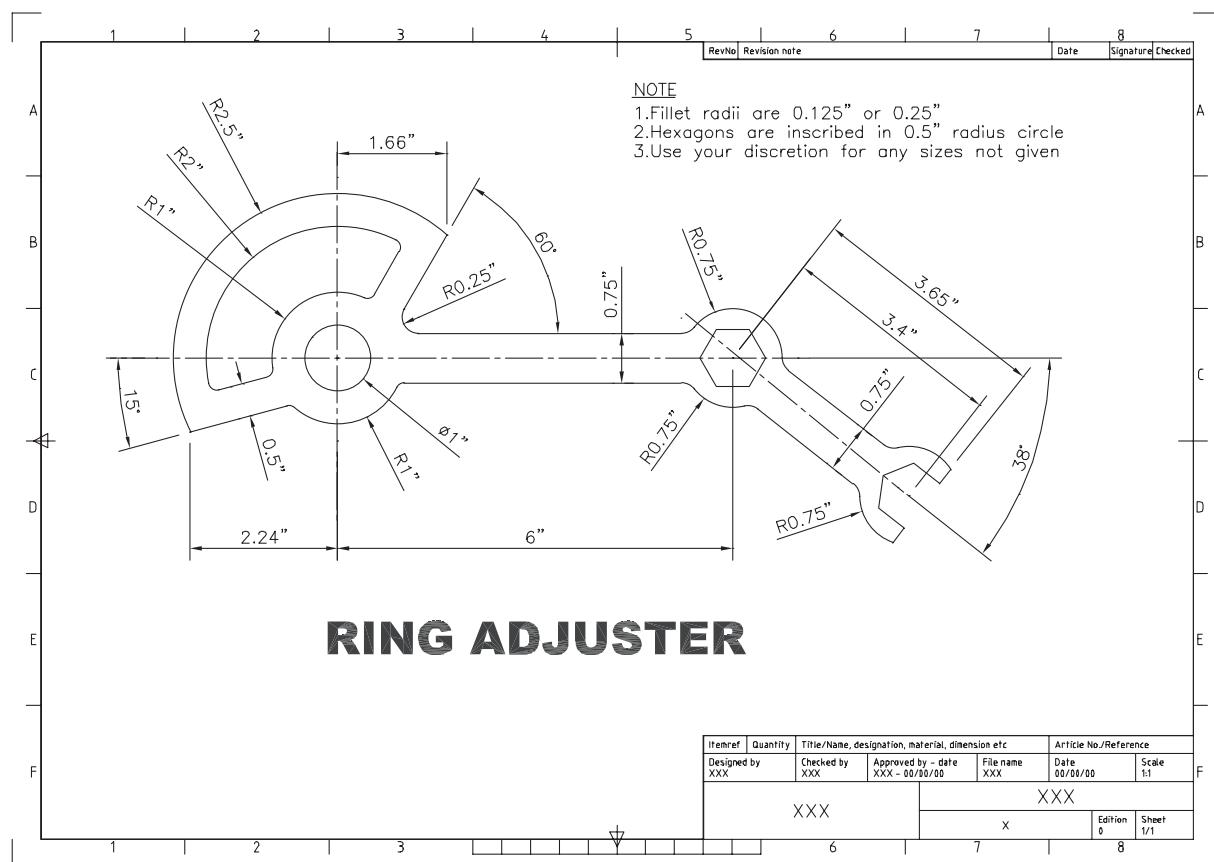

Figure 26.1 Using inches to draw a component.
- 12 Refer to Figure 26.1 and draw the component as shown. Add all text and dimensions.